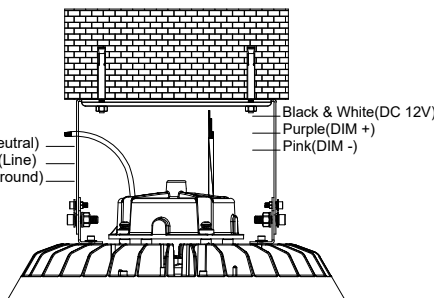

Figure 8
⑤ Turn off power, connect the wire as shown wiring diagram, (Figure 8)